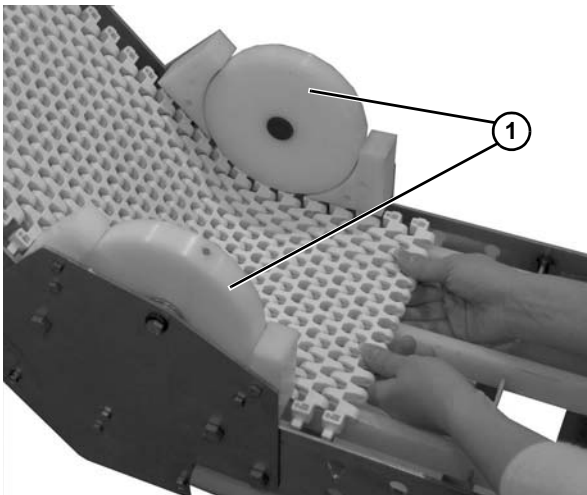

Figure 16
4. For Z-Frame conveyors, guide the belt under the hold down guides (**Figure 16, item 1**) in the lower knuckle.